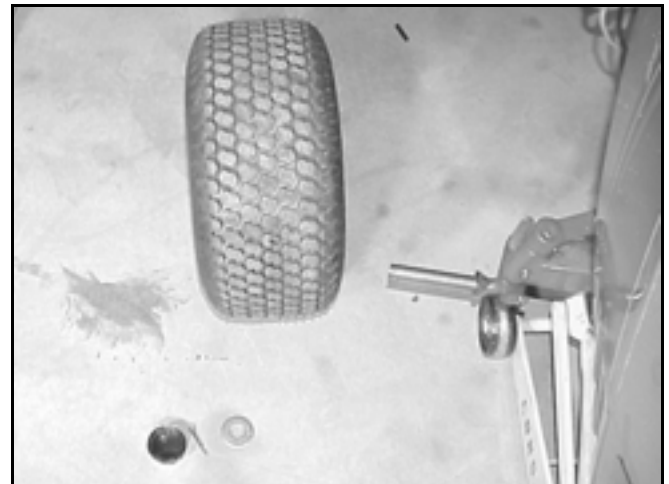

Figure 11
3. Remove the outer hub cap, cotter pin, washer, and hub cap washer. Slide the wheel and tire off the spindle (Figure 11).